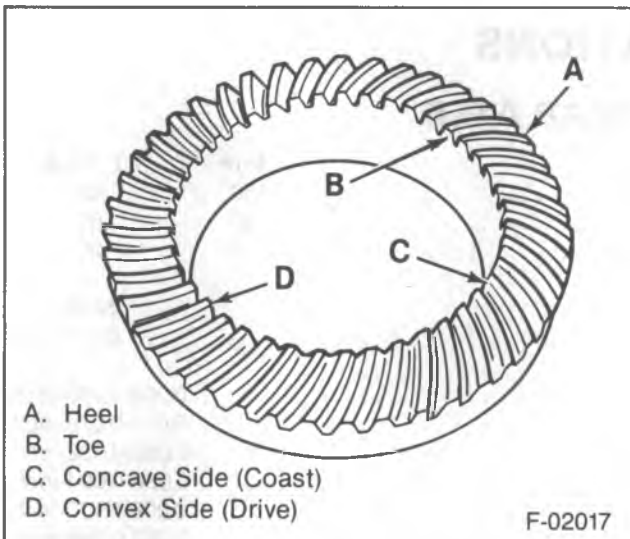

Figure 25—Gear Tooth Nomenclature
1. Wipe all oil out of the carrier, and carefully clean each tooth of the ring gear (figure 25).